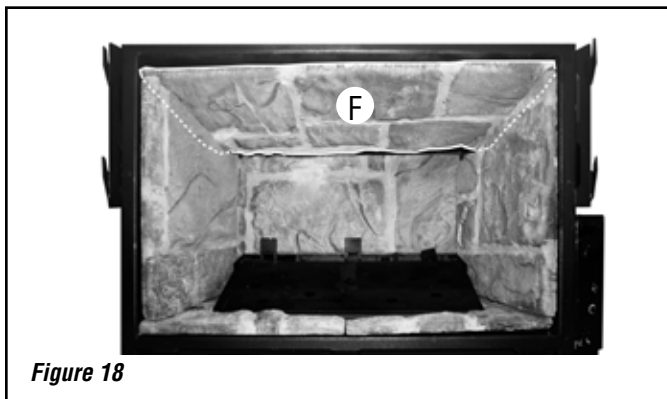

Figure 18
4. Slide the top panel in place with the detailed side down. Make sure panel is positioned all way back and resting on side panels. Top panel should be flush in front with the side panels. See *Figure 18*.